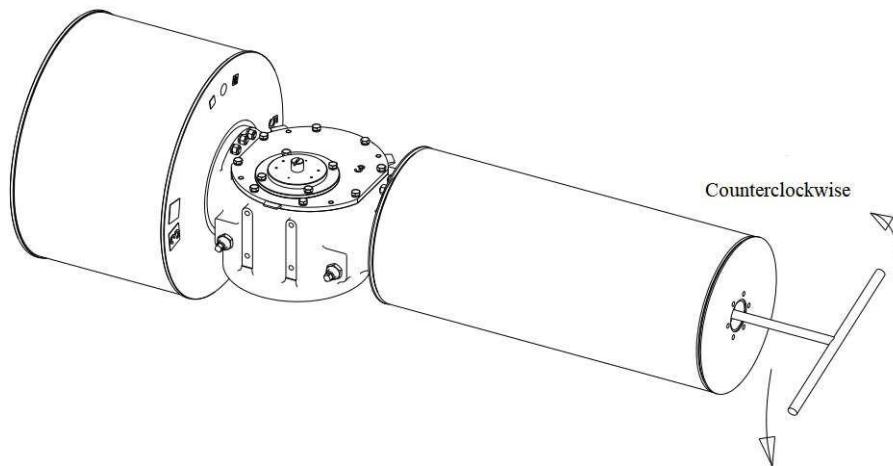

Figure 7
- 5) Use the special tools provided by the factory to extend into the spring module and insert into the end of the spring rod, see Figure 7;
- 6) Rotate the special tool counterclockwise in the direction shown in Figure 7 to completely disengage the spring rod from the transmission joint. Refer to Table 6 for the number of rotations;